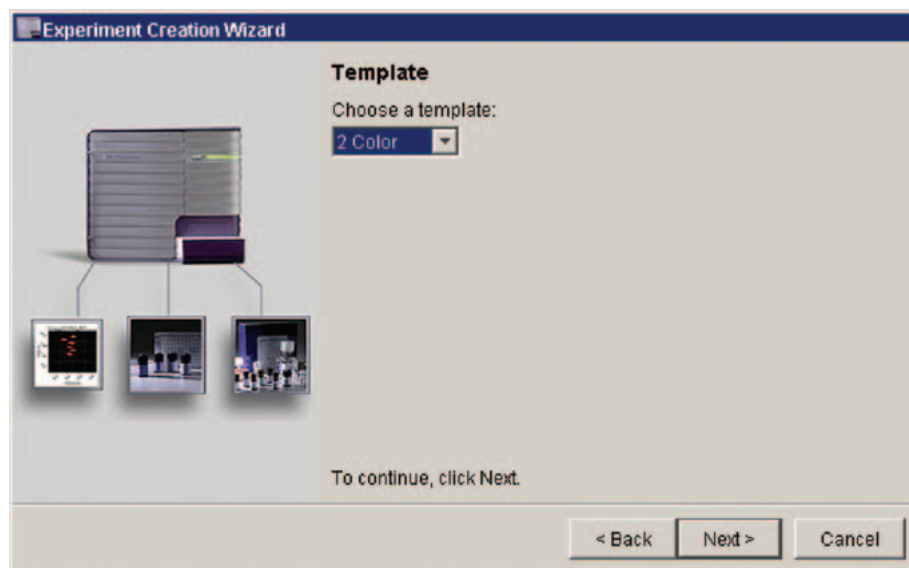

Figure 3
- The Template view appears (*Figure 3*).